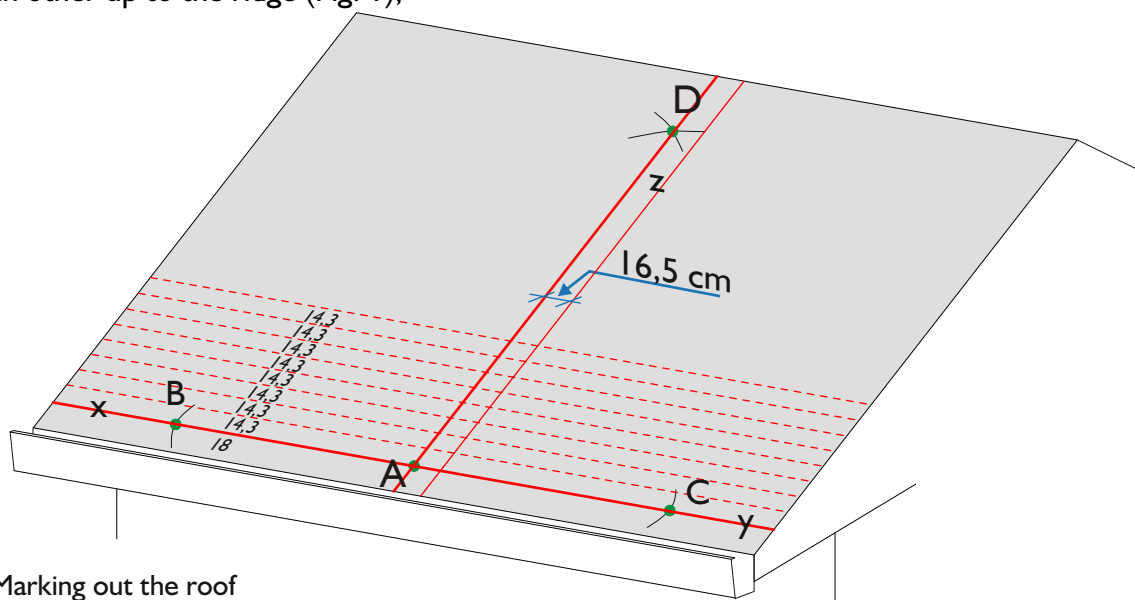

Fig. 1 - Marking out the roof
- From each other up to the ridge (Fig. 1);